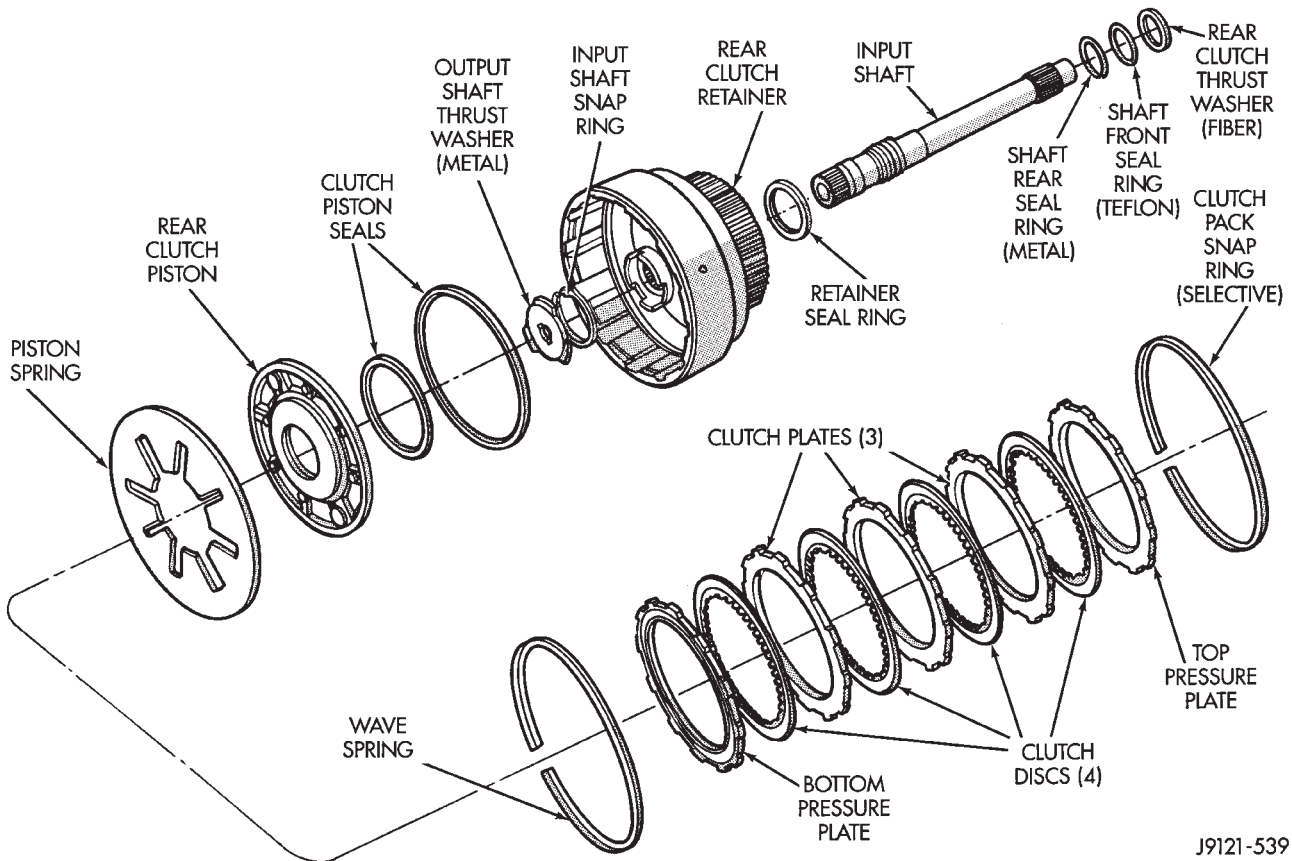
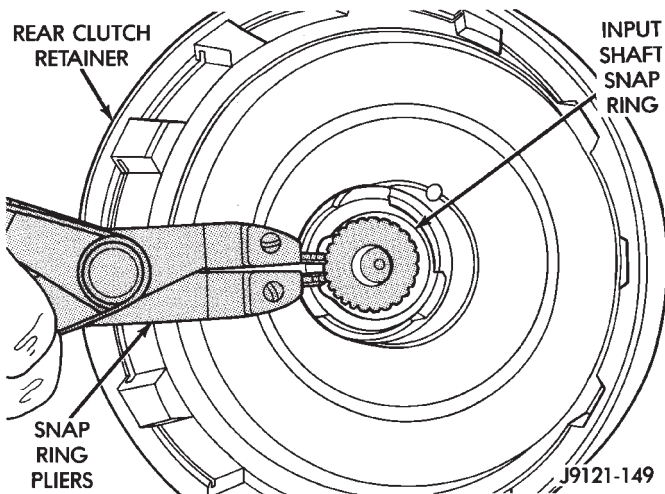

Fig. 60 Rear Clutch Components
Fig. 61 Removing/Installing Input Shaft Snap Ring
- (1) Remove plastic thrust washer from forward side of clutch retainer.
- (2) Remove selective clutch pack snap ring (Fig. 60).
(3) Remove top pressure plate, clutch discs, steel plates, bottom pressure plate and wave spring (Fig. 60).
(4) Remove clutch piston. Grasp piston and rotate piston up and out of retainer.
(5) Remove and discard piston seals.
(6) Remove input shaft snap ring (Fig. 61).
(4) Install input shaft retaining ring (Fig. 61).
(10) Install bottom pressure plate (Fig. 60). Ridged side of plate faces downward (toward piston) and flat side toward clutch pack.
(11) Install first clutch disc in retainer on top of bottom pressure plate. Then install a clutch plate
(12) Install top pressure plate (Fig. 60).
(13) Install selective snap ring (Fig. 60). Be sure snap ring is fully seated in retainer groove.